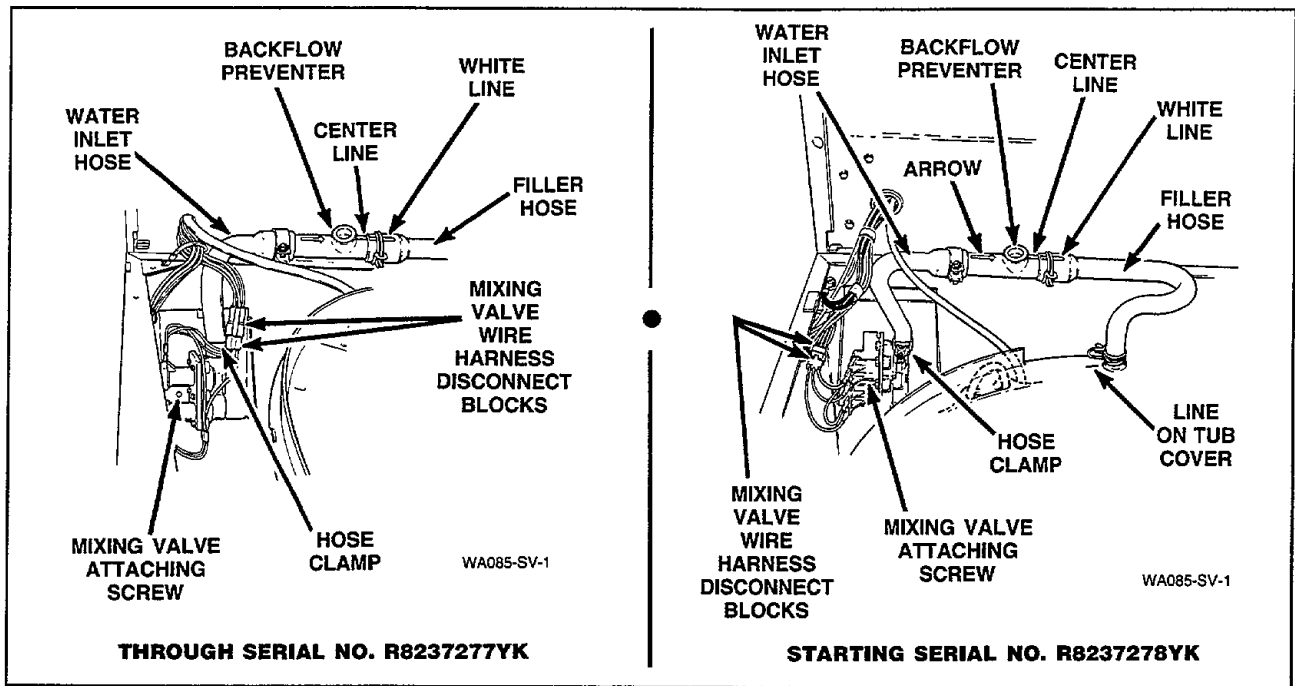

Figure 33
- Remove screw holding mixing valve to mounting bracket at rear of washer cabinet, Figure 33.
- Pull the mixing valve out toward front of washer far enough to permit disconnecting water inlet and fill hoses from mixing valve, Figure 33.
- Disconnect solenoid wires at disconnect blocks, Figure 33.
- Disconnect filler hose from backflow preventer, Figure 33.
NOTE: Through Serial No. R8237277YK — When installing filler hose, white line on the hose must be aligned with center line of the backflow preventer, Figure 33. A one eighth inch clearance
Starting Serial No. R8237278YK — When installing filler hose, white dot on the hose must be aligned with arrow on backflow preventer, Figure 33, and white line on hose that connects to tub cover must be aligned with line located on top side of outer tub cover, Figure 33.
- Starting Serial No. R8237278YK —** Unhook the pressure hose from the retainer clips located on the left rear edge of the outer tub cover, Figure 33.
- e. **Starting Serial No. R8237278YK** — Unhook the pressure hose from the retainer clips located on the left rear edge of the outer tub cover, *Figure 33*.
- f. Disconnect filler hose from backflow preventer, *Figure 33*.
NOTE: Through Serial No. R8237277YK — When reinstalling filler hose, white line on hose must be aligned with center line of backflow preventer, *Figure 33*. A one eighth inch clearance is necessary to prevent the hose from rubbing on the flange of the tub cover, *Figure 34*. Loosen hose clamp and move hose to obtain the proper clearance.
Starting Serial No. R8237277YK — When reinstalling filler hose, white dot on hose must be aligned with arrow on backflow preventer, *Figure 33*, and white line on hose that connects to outer tub cover must be aligned with line located on top side of tub cover, *Figure 33*. Make sure the hose is in its natural position (not kinked or twisted). If it is not, loosen hose clamp and straighten the hose.